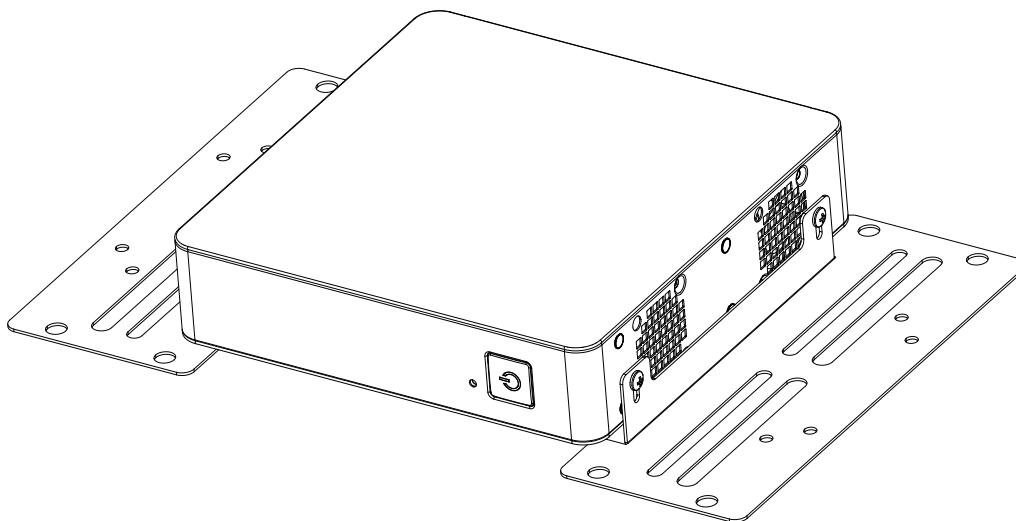
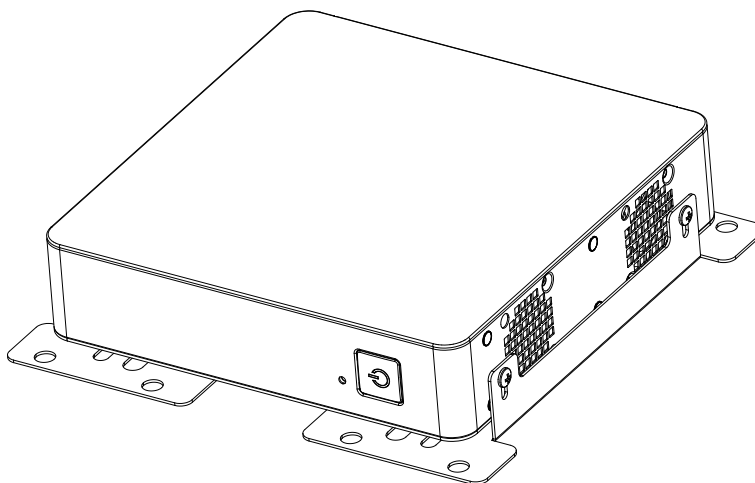

Figure 1-2. Installing Mounting Brackets
Figure 1-3. Installed Mounting Brackets
System Block Diagram**Figure 1-3. Intel N3700 SoC Chipset: System Block Diagram**
1. Choose the desired bracket mounting configuration. Note that the brackets can be installed in two orientations--with the brackets extending out from the chassis (as Figure 1-2), or the brackets under the chassis (as Figure 1-3).